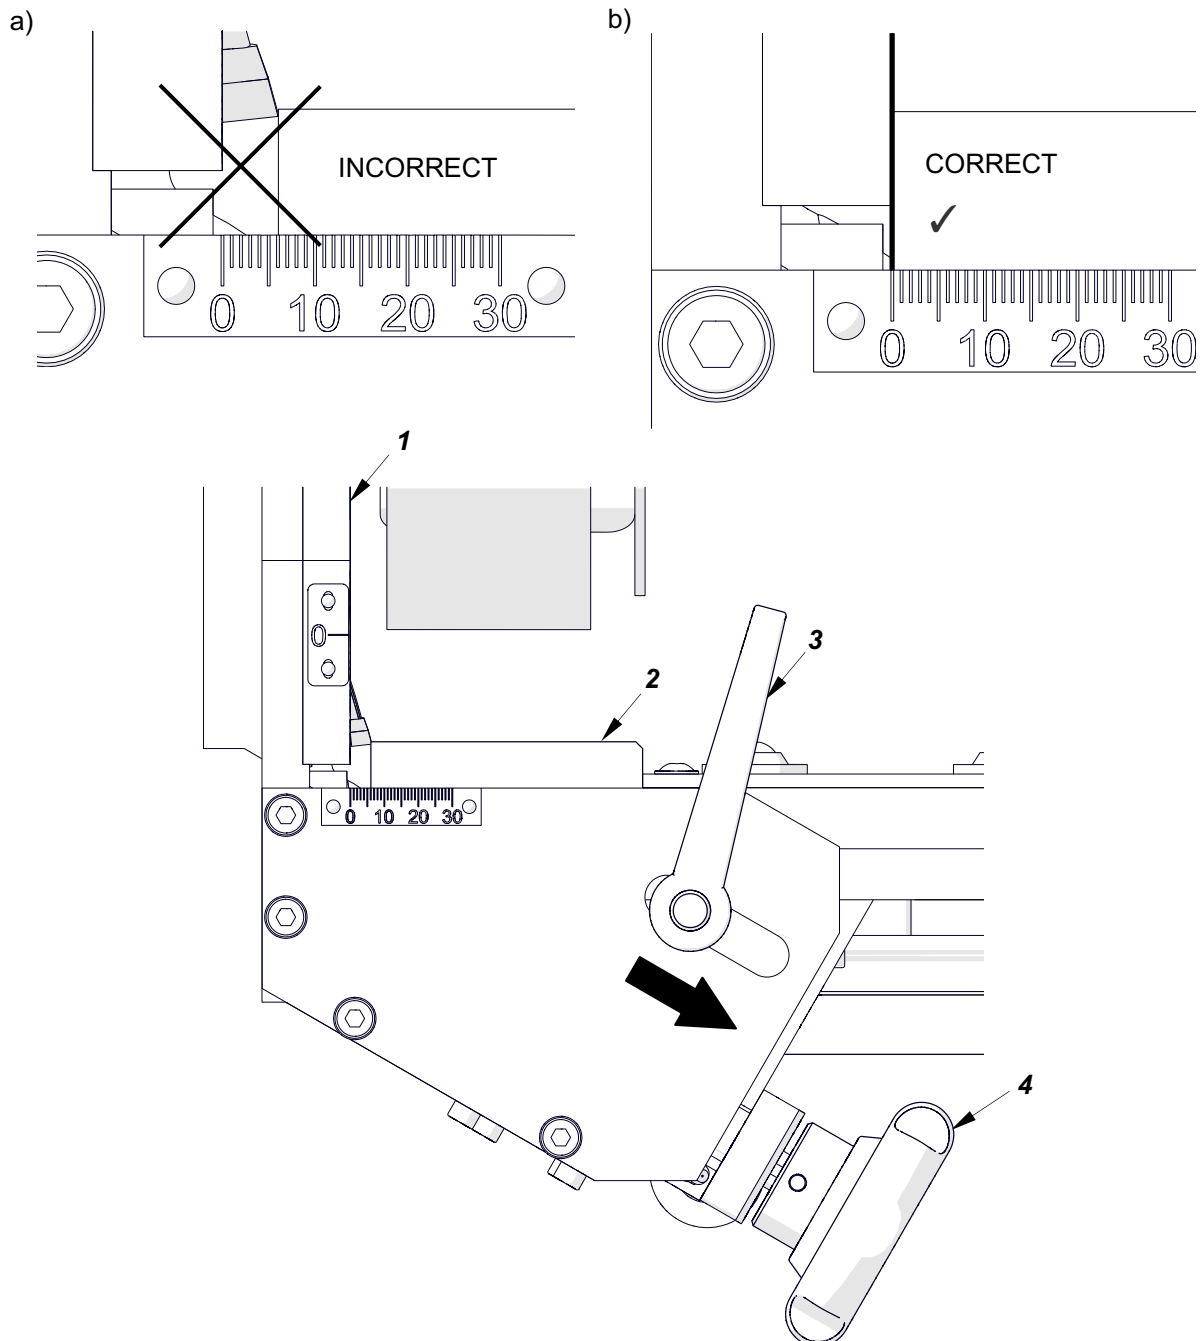
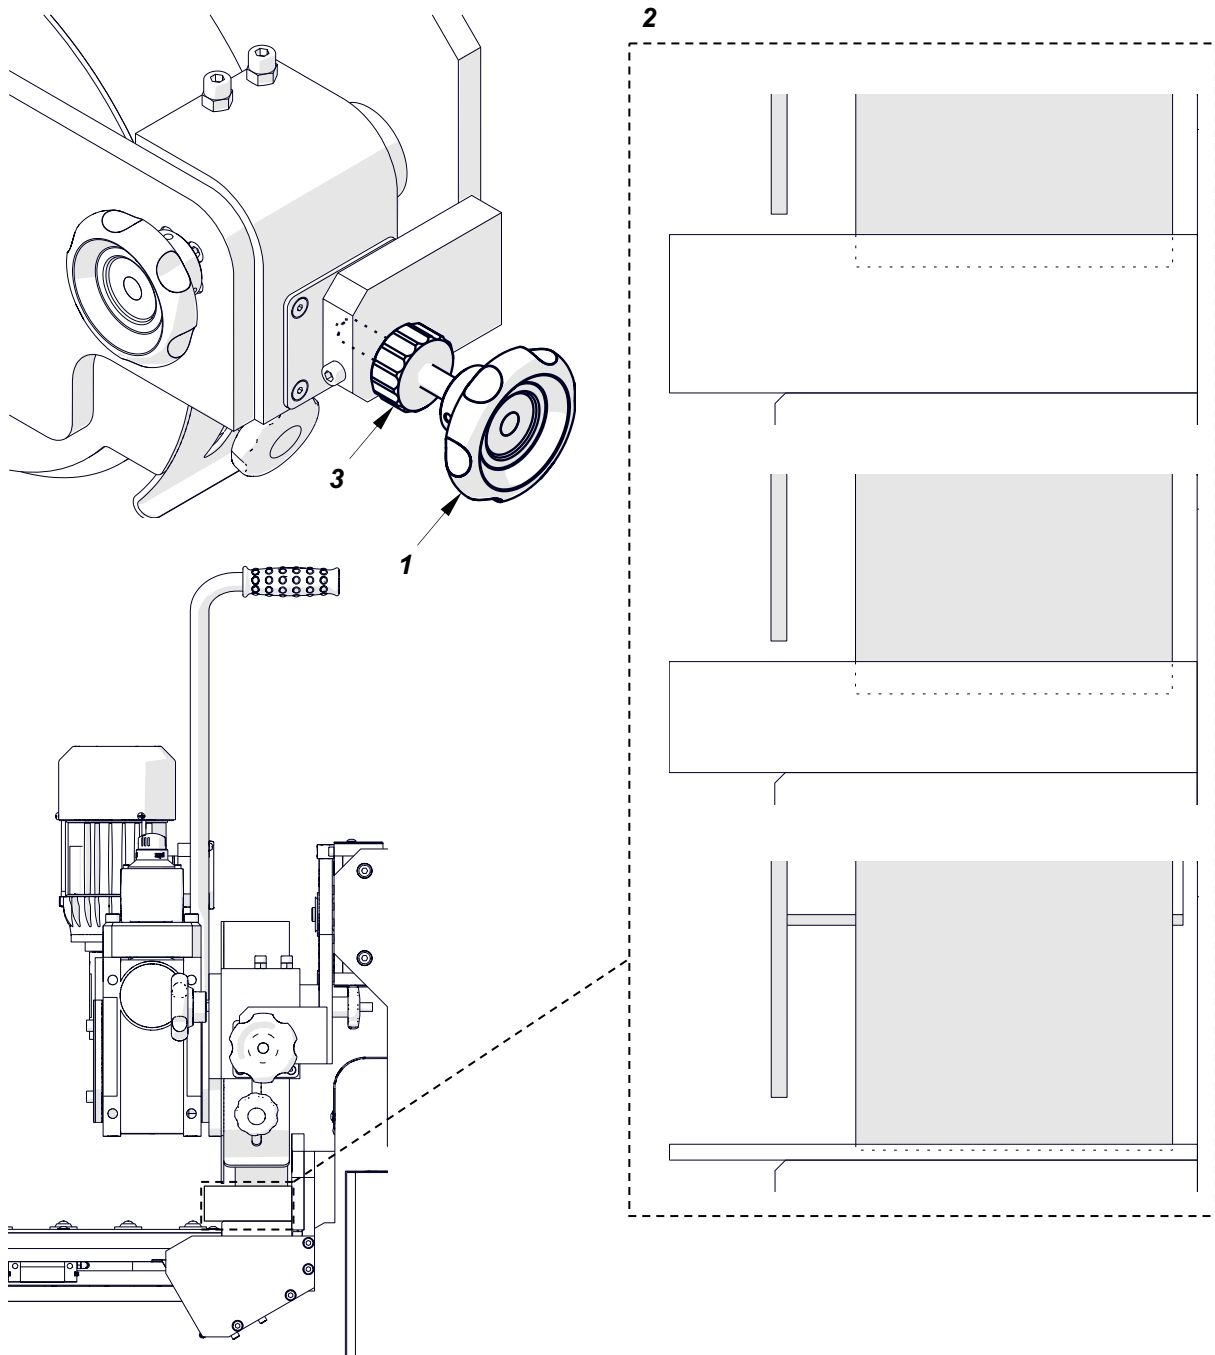
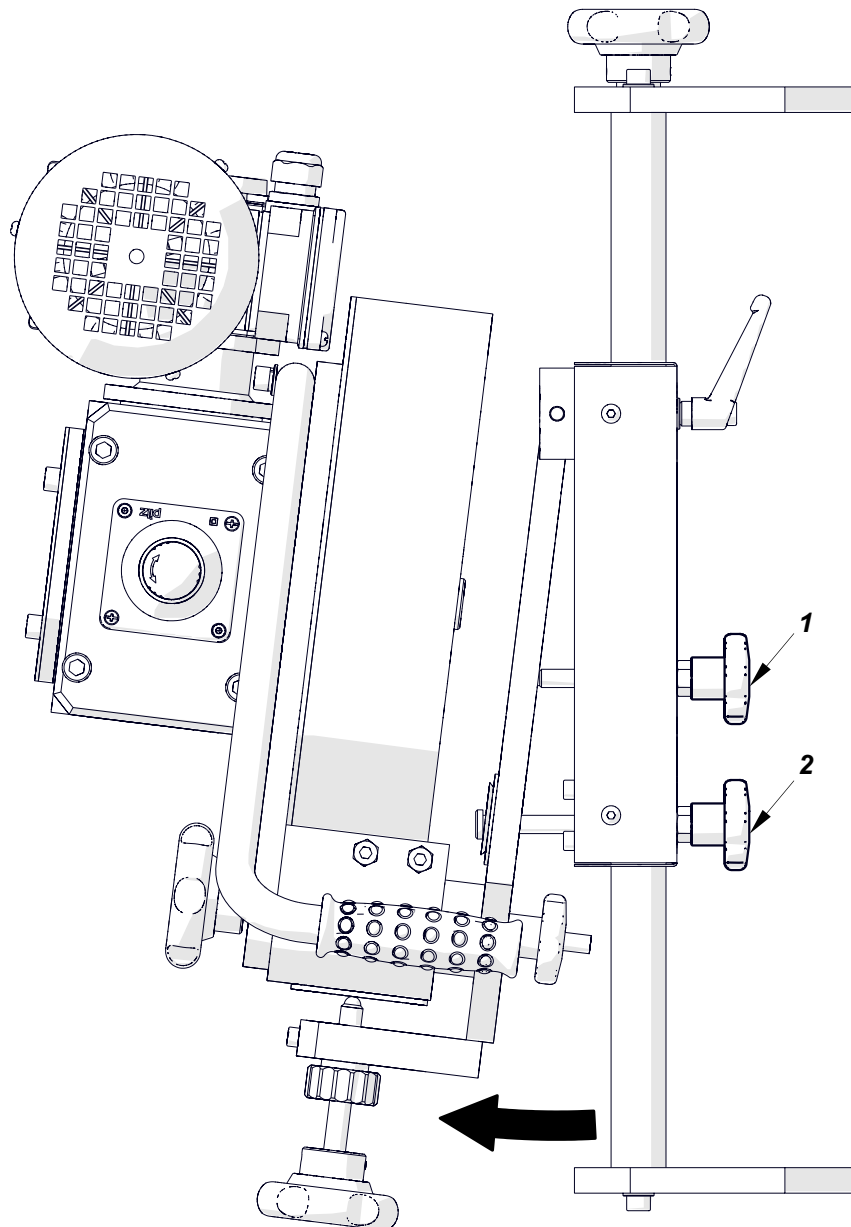
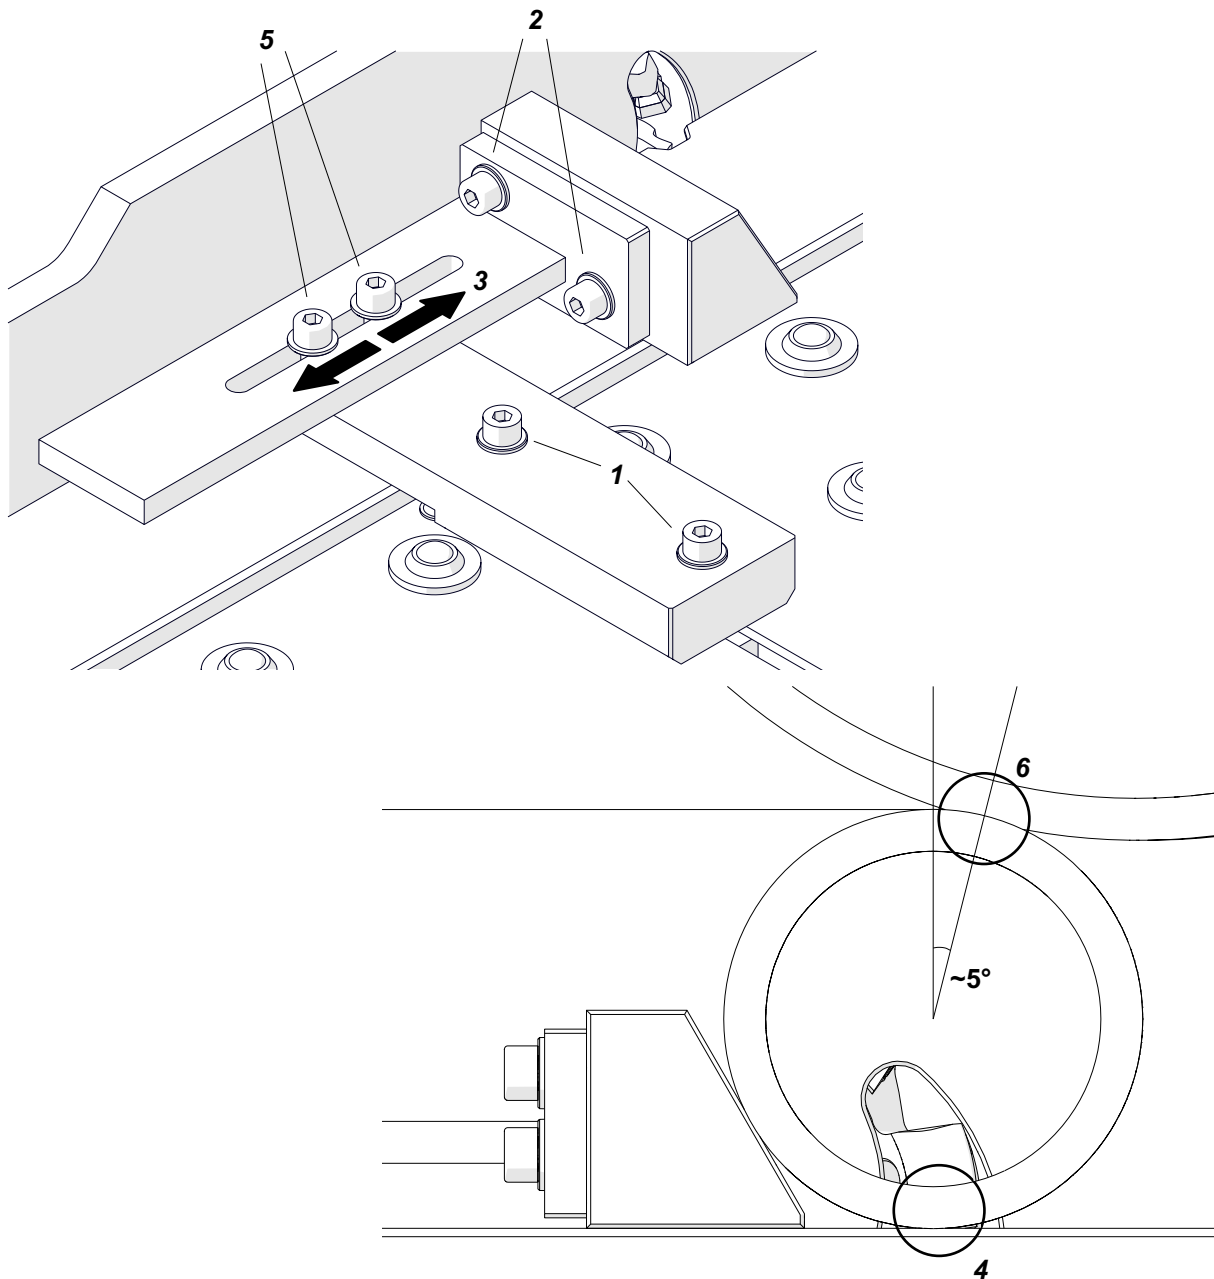

Fig. 6. Setting the milling head penetration to zero: incorrect (a), correct (b)
Fig. 9. Setting the feed wheel height
Fig. 10. Tilting the feed unit
Fig. 16. Adjusting the attachment
Use the knob (1, Fig. 9) to set the feed wheel at such a height so that the workpiece is firmly pressed to the horizontal base (2) during rotation of the feed wheel. Then, use the nut (3) to lock the knob in this position.
To ensure that the workpiece is sufficiently pressed to the vertical base, use the knobs (1, 2, Fig. 10) to tilt the feed unit. Do this when milling narrow workpieces or after moving the vertical base away from the horizontal base.
Make sure that the attachment is in contact with the vertical base and horizontal base. Then, use the 6 mm hex wrench to tighten the screws (1, 2, Fig. 16). Next, adjust the attachment so that (3) the bottom of the pipe is as close to the milling spot as possible (4) and tighten the screws (5).
Set the required bevel angle and milling head penetration (Fig. 6, 7, 8), and tilt the feed unit by about 2° (Fig. 10). Next, set the height feed wheel height and adjust the wheel (Fig. 9, 11) so that the pipe is pressed to the attachment and horizontal base when the feed wheel turns (6, Fig. 16).